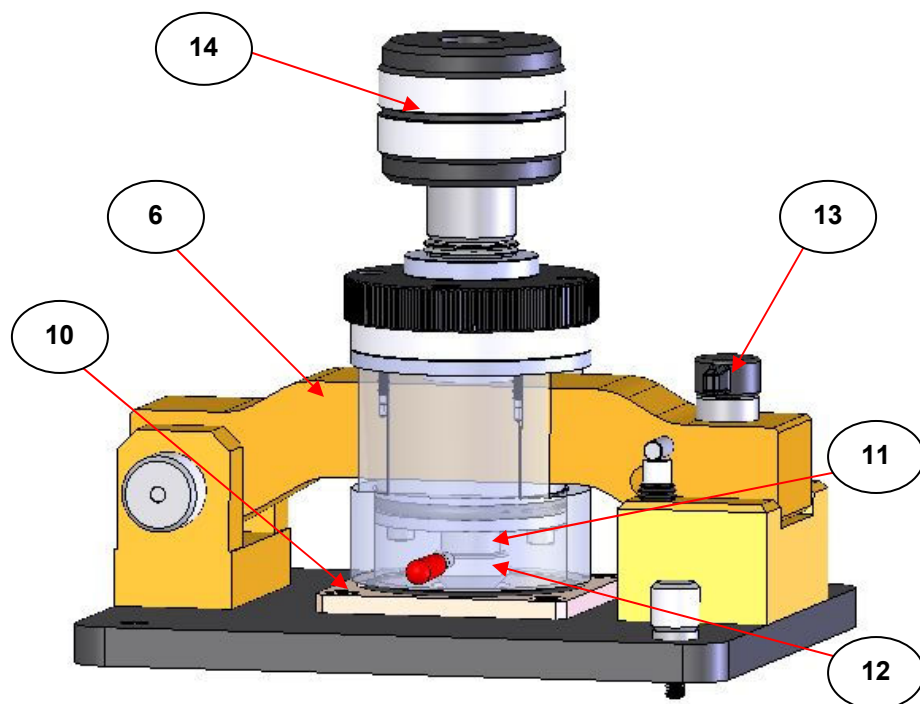

Fig 6. Envirochamber Golden Gate™ Top Plate Bridge Closed, Anvil and Envirochamber Cap Lowered
The design of the Envirochamber cap assembly (4) allows for independent movement of raising or lowering the internal clamp anvil screw assembly (11). (See Fig 6.)